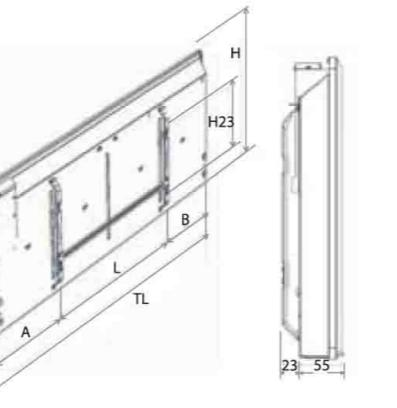

Fig. 2
Overall and mounting dimensions of the convector as per fig. 2 are given in table 2.
3. Define the installation place for the convector as per figs. 2, 4 and table 2 observing the minimum distances from objects and minimum distance from the floor.